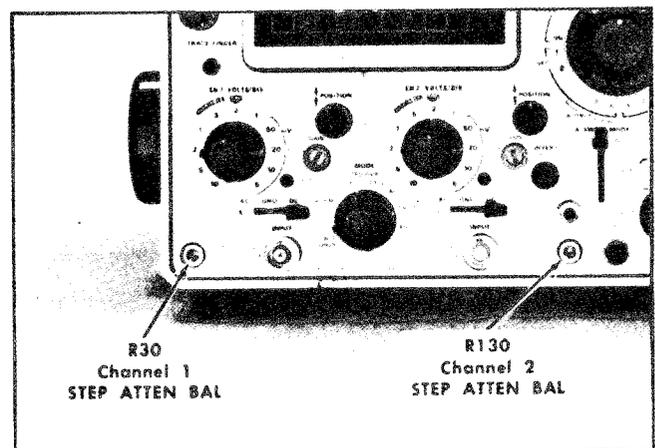

Fig. 6-14. Location of Channel 1 and 2 STEP ATTEN BAL adjustments (front panel).
- d. ADJUST-Channel 1 STEP ATTEN BAL adjustment, R30 (see Fig. 6-14), for no trace shift as the CH 1 VOLTS/DIV switch is changed from 20 mV to 5 mV.
h. ADJUST-Channel 2 STEP ATTEN BAL adjustment, R130 (see Fig. 6-14), for no trace shift as the CH 2 VOLTS/DIV switch is changed from 20 mV to 5 mV.